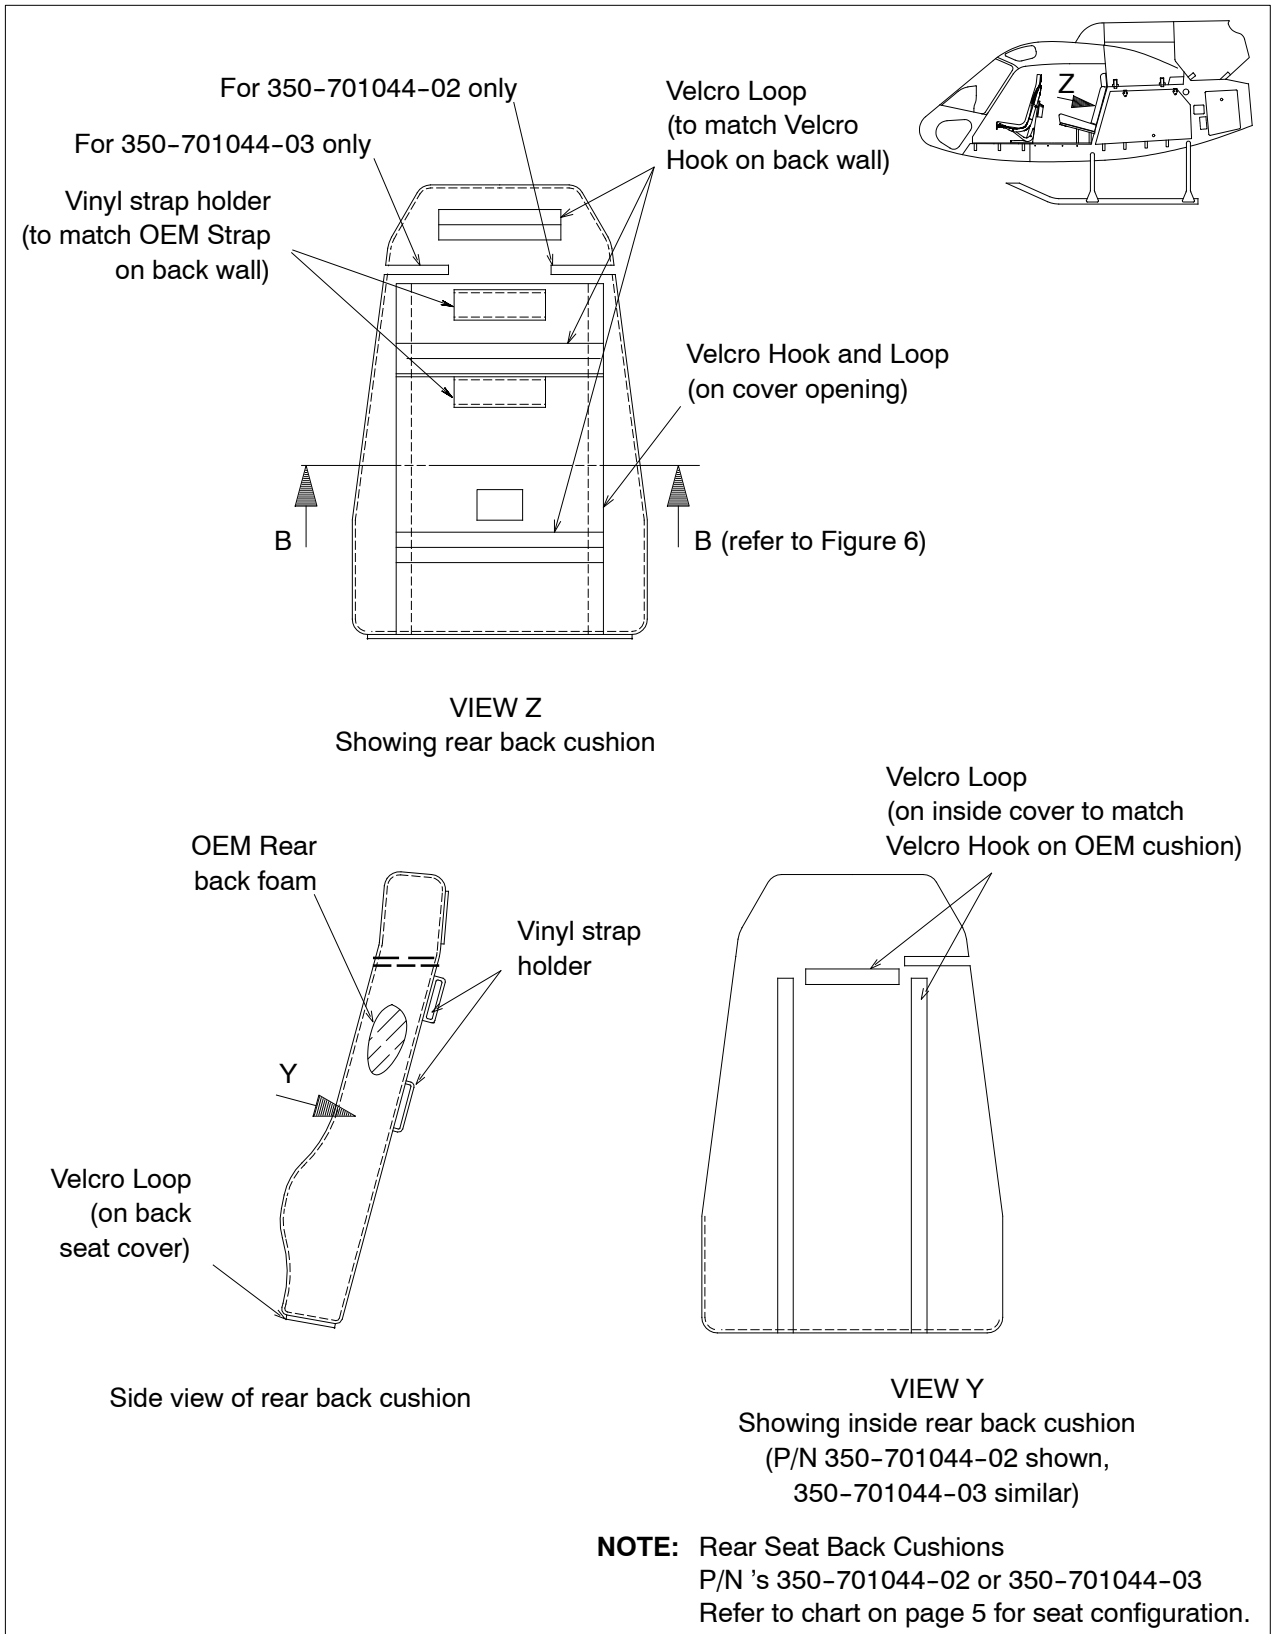

Figure 4 Rear Bush Seat Cushion Details (Sheet 1 of 3)
- 2) REAR SEAT CUSHIONS (Refer to Figures 4 and 5)
- a) Position the seat back and bottom cushions in the aircraft. Feed the cushion security straps through the vinyl strap holders located on the back of the back seat cushions. Refer to Figure 4, VIEW Z.
- b) Secure seat back and bottom cushions using Velcro Hook and Loop. Refer to Figures 4 and 5.